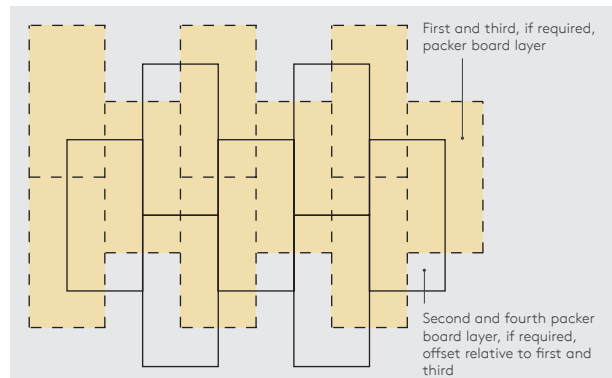

Figure 3: Offsetting of multiple packer board layers
- In all cases, the layers should be horizontally offset relative to each other so that, as far as possible, the board joints in any two adjacent layers do not coincide with each other (see Figures 3 and 4).